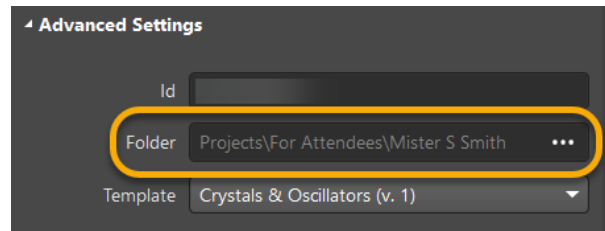

Figure 6. Folder for Component
8. Under the *Advanced* section (see Figure 6 below), add your training folder.